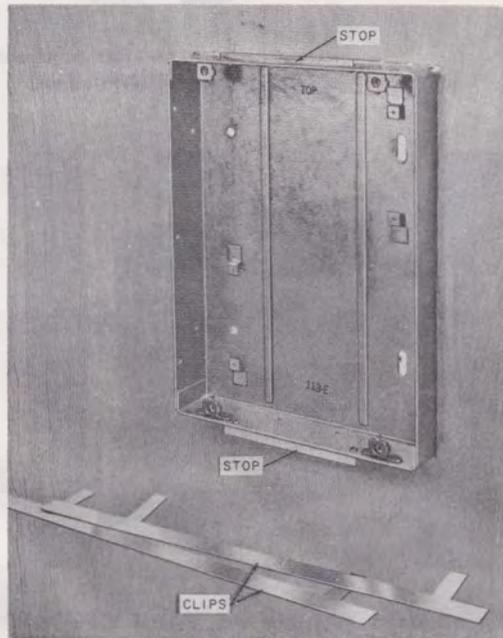

Fig. 14—113E Apparatus Box, Showing Clips and Installation of Stops From D-179941 Kit of Parts
- (b) Install the 113E and 113B (MD) apparatus boxes as follows:
- (1) Mount the stops on top and bottom of the apparatus box with screws provided (Fig. 14).
3.08 114A Apparatus Box: The 114A apparatus box requires a hole 8-5/8 inches by 11-5/8 inches to be cut in the wall. The two clips from a D-179941 Kit of Parts are used to secure the box in the wall in the same manner as the 113E apparatus box (Fig. 14, 15, and 16). The two stops and mounting screws from the D-179941 Kit of Parts are not required. The 114A apparatus